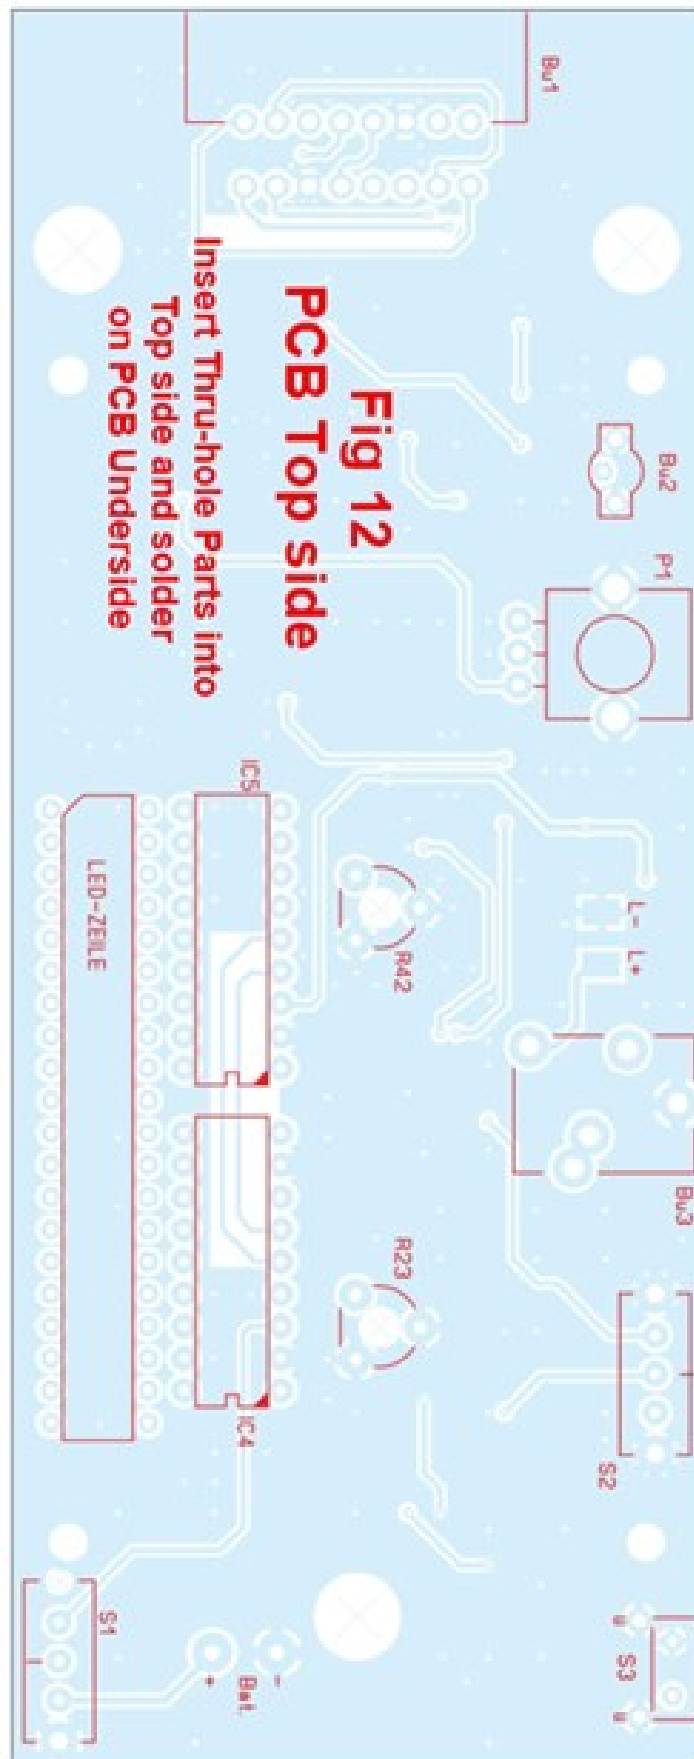

Figure 12 Top side
2.2 **IMPORTANT** – Unwrap the main PCB from ESD packaging and compare the layout against Fig. 12 page 12 of the EMI-Spy 2 manual and note the following: []
- 2.3 Fig 12 shows the **TOPSIDE** of the main PCB which is the side which has the component layout and designation printed. []
- 2.4 Fig. 12 shows all the **Through Hole** components which are **inserted** from the **TOPSIDE** of the Main PCB []
- 3.3 Ref Fig.12 page 12 Insert variable resistor **R23** in the correct position **TOPSIDE** and turn the PCB to **UNDERSIDE** and solder component R23 []
- 3.5 Locate Integrated Circuit **IC4 LM3914** ref Fig.12 and note the notch on IC4 outline On **TOPSIDE**. Insert IC4 with notch pointing to the right on **TOPSIDE** []
- 3.7 Locate Integrated Circuit **IC5 LM3914** ref Fig. 12 and note notch on IC5 outline on **TOPSIDE**. Insert IC5 with notch pointing to the **right** on **TOPSIDE** []
- 3.9 **LED Socket Assy:** Ref Fig. 7 and note the Red arrow indicating the chamfer on one corner of the LED socket. Use a magnifying glass, if necessary, as the chamfer rounding is much smaller compared to the indication shown in Figure 12. []
- 3.10 Insert the **LED socket Assy** on Fig. 12 **TOPSIDE** with the chamfer rounding pointing to the bottom left corner. Make sure the LED socket is placed exactly straight and fit into the holes of the PCB and solder the 4 corner pins on the **UNDERSIDE** []
- 3.12 **SLIDE SWITCHES** - Locate identical switches **S1 and S2** and fit these as shown in ref Fig 12. on **TOPSIDE** of the PCB. Make sure the switches are horizontal and fully pushed against the PCB. It is recommended to solder the center pin on the **UNDERSIDE** first to ensure the switch is in the correct position before soldering the remaining pins quickly.
- 3.13 Locate **miniature button switch S3** and plug in fully against the **TOPSIDE** PCB as shown in Fig. 12. Solder quickly on **UNDERSIDE** to avoid damaging to switch []
- 3.14 Locate **3.5mm JACK Socket Bu3** and plug in fully home against the **TOPSIDE** circuit board as shown in Fig 12. Turn over PCB and Solder **UNDERSIDE** []
- 3.15 Locate **Coaxial Socket Bu2** and plug in fully home against the **TOPSIDE** PCB as shown in Fig 12. Solder **UNDERSIDE** []
- 3.18 Locate **Potentiometer P1 50 kOhm P1** and plug in fully home against the **TOPSIDE** PCB as shown in Fig 12. Turn over PCB and solder all 5 tabs **UNDERSIDE** []
- 3.19 Locate **9V Battery Clip** Ref Fig. 7. trim back the length of the Battery clip wires if deemed too long and solder the leads as shown in Fig 12. (red = + black = -) []